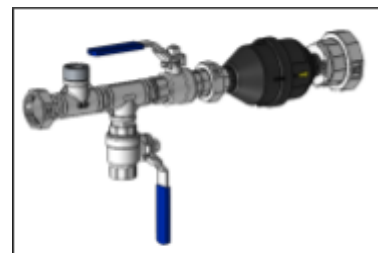

Figure 16.
- **Note:** Install the T-fitting so that the water meter and the ball valve connect directly to each other. Point the second ball valve downward (see Figure 16).